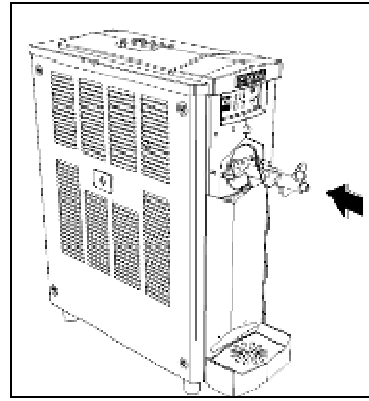

Fig. 16
- Once assembled, insert the beater carefully into the cylinder making sure that the rear shank fits perfectly in its seat within the cylinder (fig. 16).